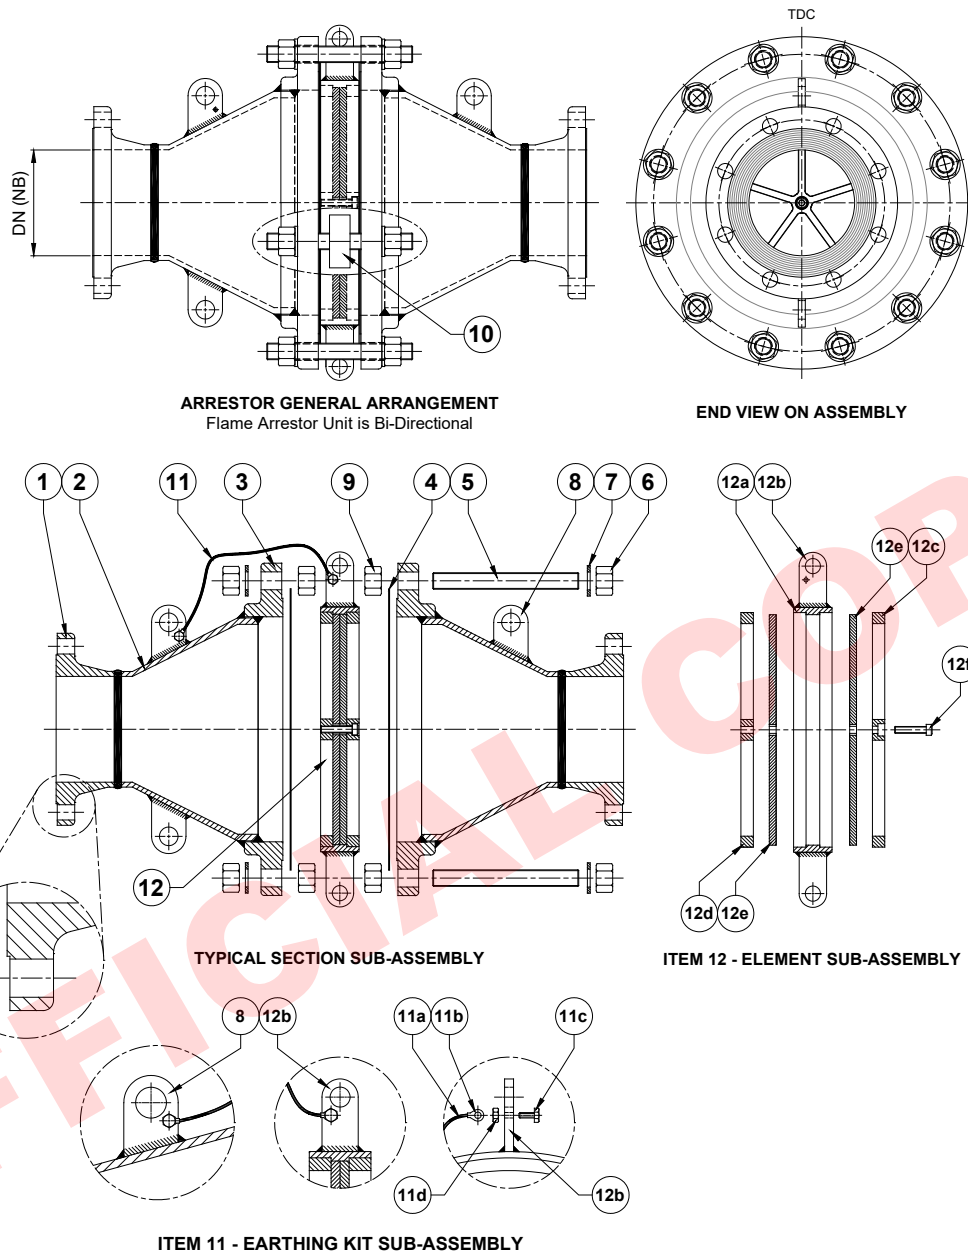

Figure 2 – Typical Section View on In-Line Flame Arrestor Assembly
Refer to Figure 2 – Section View on typical In-Line Flame Arrestor Assembly.
- Part No. 2 – Concentric version shown within figure 2, Eccentric version available.
1. Always refer to Figure 2 of this document and the information on the flame arrester nameplates when installing a flame arrester.